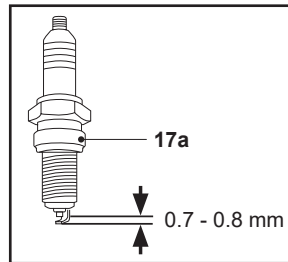

Fig. 26
6. Check the spark plug gap. It should be 0.7-0.8 mm (Fig. 26).
8. When replacing the spark plug (17a), first screw it in hand tight and then lightly tighten it with the spark plug wrench (33).
9. Refit the spark plug connector (17), ensure the rubber pad around the spark plug connector is in correct position.